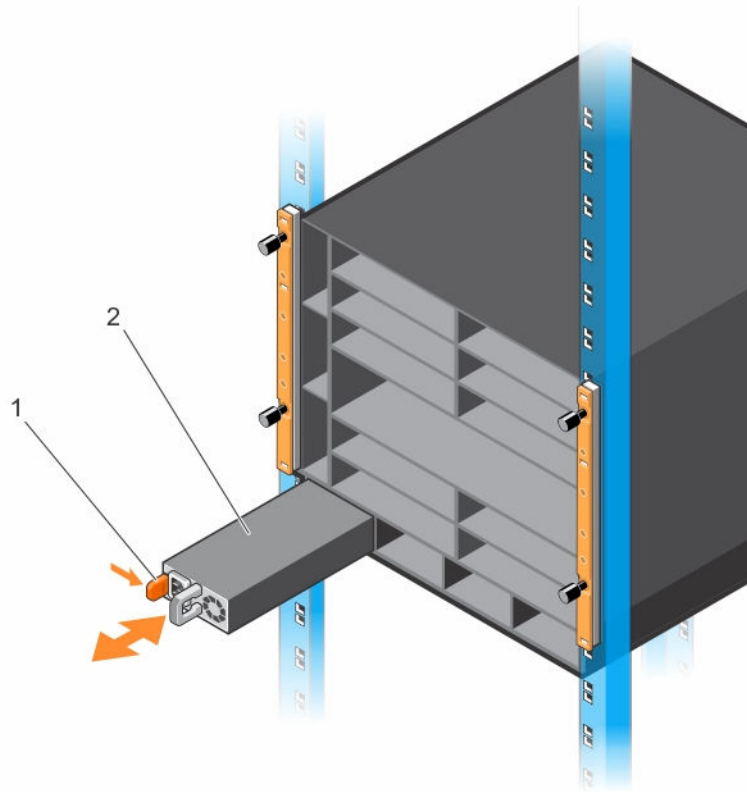

Figure 24. Installing the First Power Supply
2. Slide the first power supply into the left-most power supply slot (PSU 0) until the latch (item 1 in Figure 24) snaps in place. For the location of PSU slot numbers, see C9010 Hardware Description.